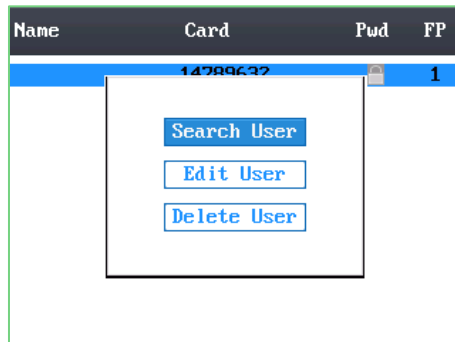

Figure 6-9 Managing User Interface
2. Click the # key to popup an interface for selecting corresponding operations. (Figure 6-9)
2. Tap the # key to pop up an interface for selecting corresponding operations. (Figure 6-9)